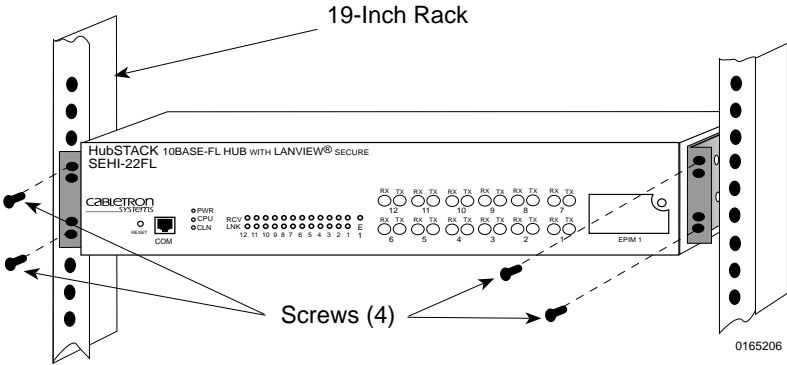

Figure 4-5 Installing the SEHI in the Rack
3. Ensure that the rack used will support the unit and that the rack will remain stable with the unit installed in it. Support the SEH securely from underneath and align the brackets of the SEH chassis with the screw holes in the equipment rack as shown in Figure 4-5. Fasten the SEH to the equipment rack securely.